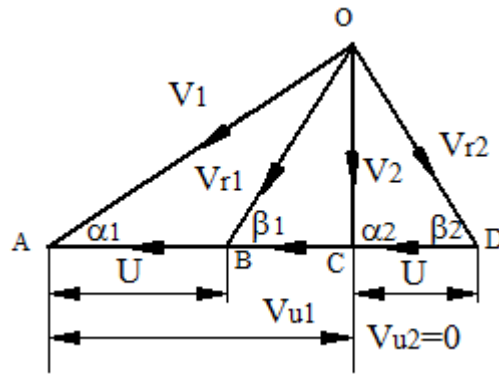

Fig. 3.10 General velocity diagram for maximum utilization (Common apex method)
**3.4.1.3 Variation of Maximum Utilization Factor with Nozzle (Stator) Angle:** The general velocity diagram of axial flow turbine for maximum utilization is as shown if figure 3.10.